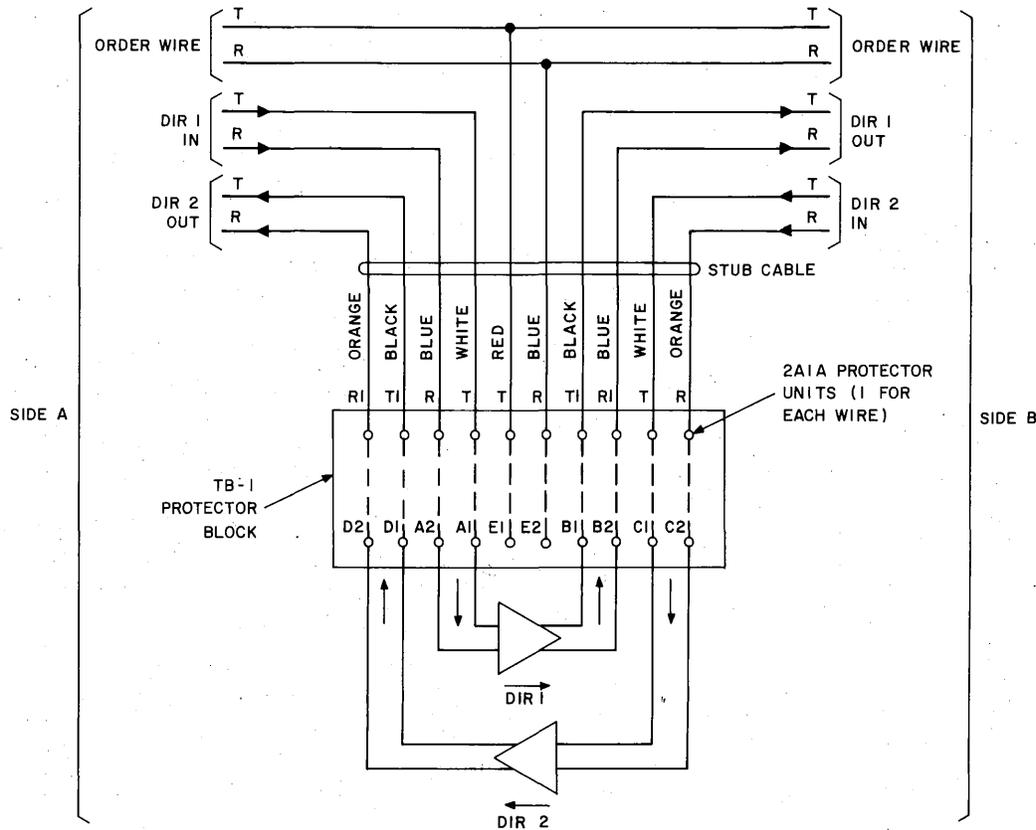

Fig. 3—Stub Cable Terminal Connections for J70171B Apparatus Case
**3.07** Figure 3 shows the stub cable terminal connections for a single repeater mounted in a J70171B apparatus case. The order-wire connections (E1 and E2) on an optional basis may terminate on the outside of the case. This allows a 1011B handset to be connected to the order wire without removing the container from the case. Care should be taken to avoid shorting the order-wire leads by taping one of the test clips of the handset.